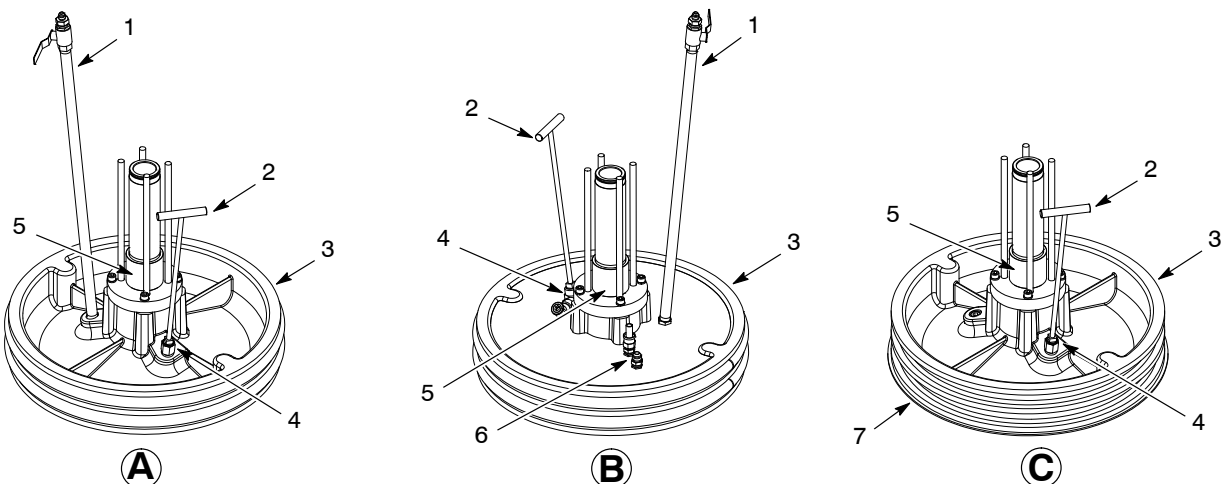

Figure 1 Type-H 55-Gallon Follower Modules
See Figure 1. The Rhino® SD2/XD2 Type-H follower module attaches onto the hydraulic section of the pump (5) and is designed to force material out of straight-sided containers. Standard (A), temperature-conditioned (B), and PTFE-coated steel ring (C) modules are available.